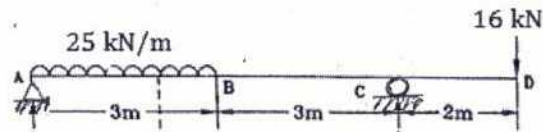

Figure 2
- Q2 Draw the shear force and bending moment diagram for the beam as shown in Figure 2. Mark all the salient points. (12)